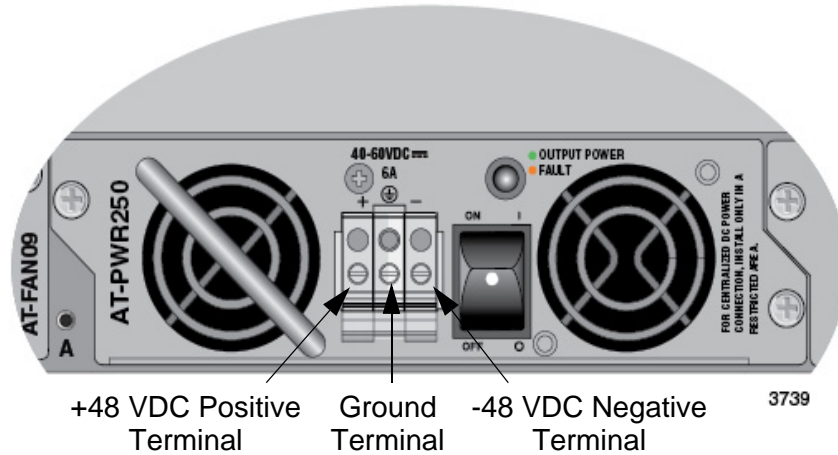

Figure 67. DC Terminal Block
3. Use the legend above the terminal block to identify the terminals. The terminals are **positive**, **power supply ground** and **negative**, from left to right, as shown in Figure 67.